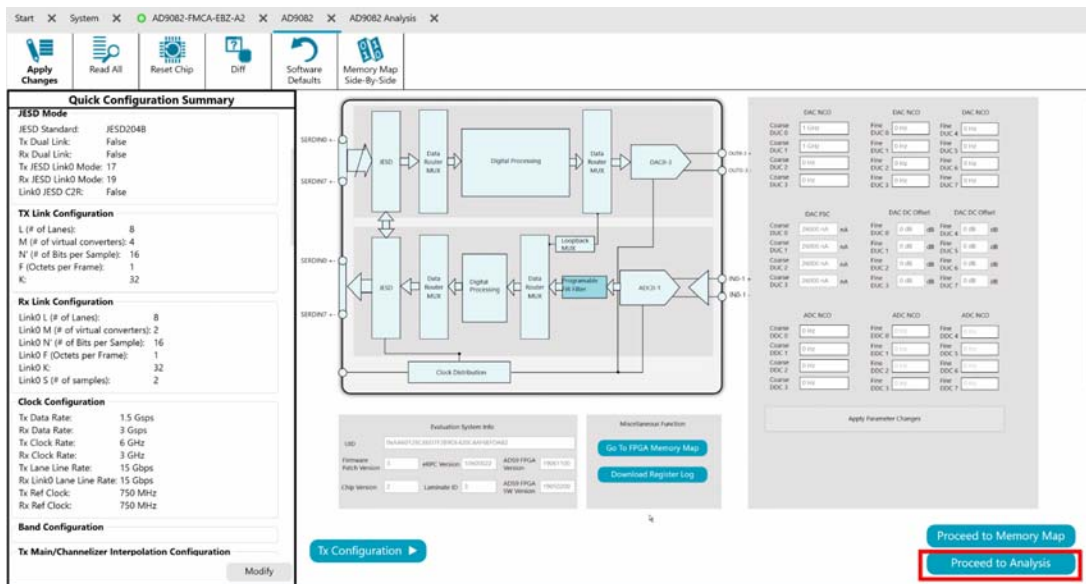

Figure 18. Additional Controls Including Analysis Features
A block diagram that allows transmitter, receiver, and programmable filter configurations loads, as shown in Figure 18.
- a. **Data Rate:** this must match the selected **Tx Data Rate** field under the **Clock Configuration** section in ACE, as shown in Figure 18.